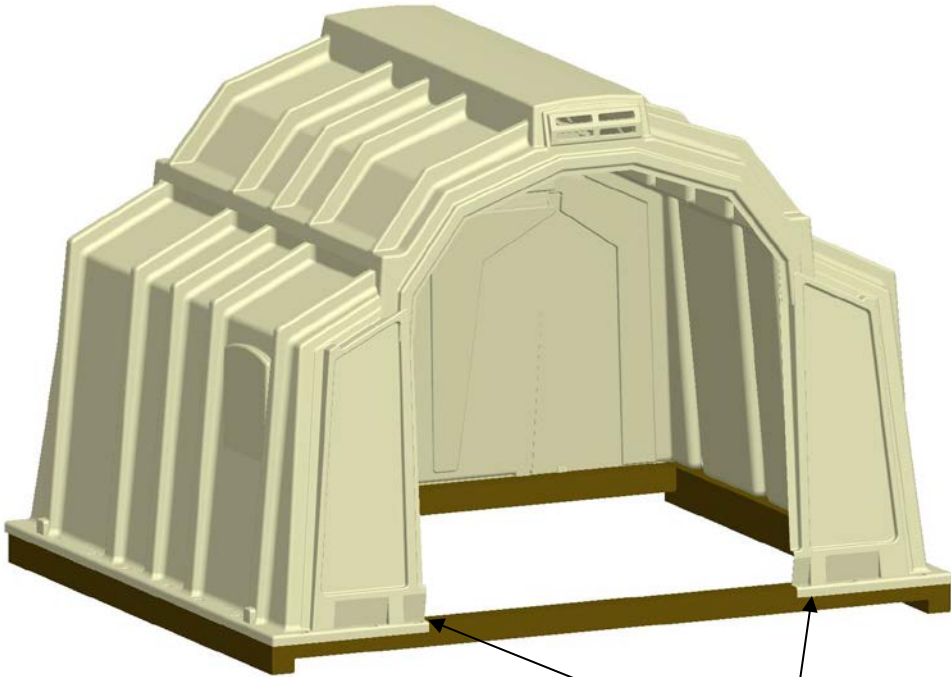

Figure 2
- A. Using 5/16" (8mm) Deep Well Socket, washers and screws, fasten (2) brackets (included in hardware kit) near entrance securing Hutch to Base (see figure 2)